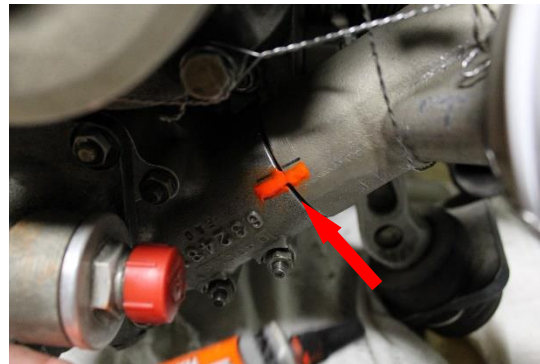

Figure 3
- b. If neither the body or oil transfer cylinder moved when tested in accordance with Paragraph 2 a, apply a bead of Torque Seal (Cross Check ITW PRO Brand or equivalent) across the gasket at the oil transfer cylinder/oil pump housing joining as shown below in Figure 3.